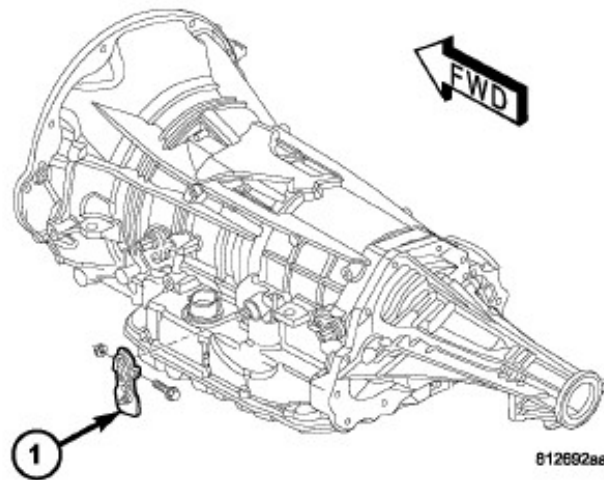

Fig. 27
53. Install the manual shift lever to the transmission using a **NEW** manual shift lever bolt Fig. 27. Tighten the bolt to 12 N·m (9 lbs. ft. lbs.).